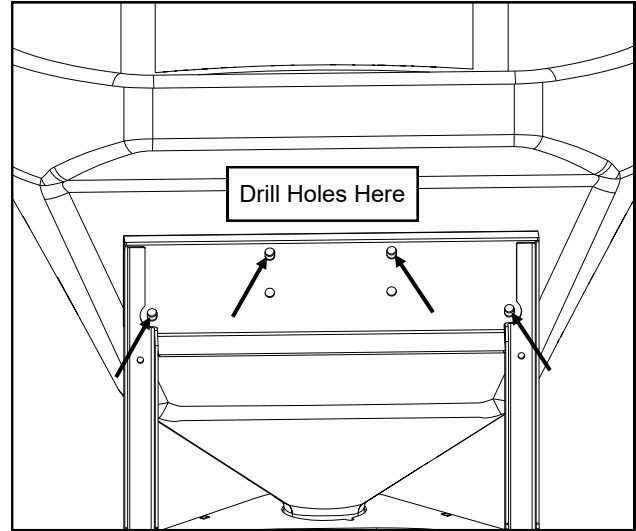

Fig 1.4
- 1.4 Drill four holes in the hopper using the support holes as a template. Place the backing plate inside the hopper. As shown in figure 1.4.